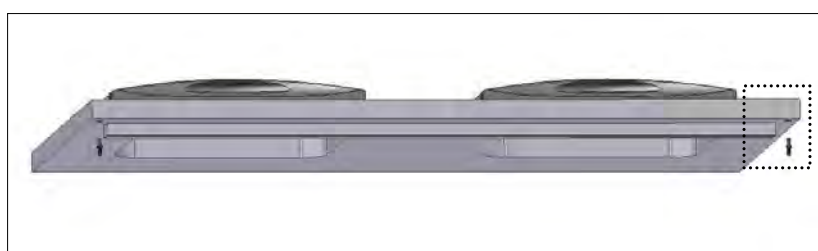

Fig. 6
- Insert the **superior stud-pins** in the top (Fig. 6);